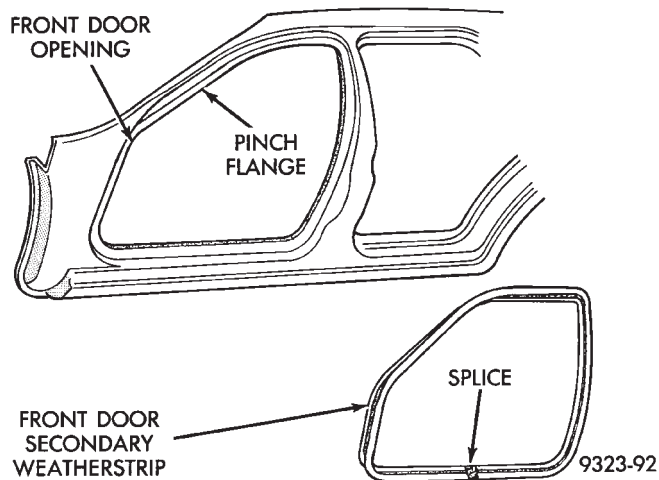

Fig. 28 Front Door Secondary Weatherstrip
- (1) Open front door.
- (2) Loosen door opening sill plate.
- (3) Pull secondary weatherstrip from fence around door opening (Fig. 28).